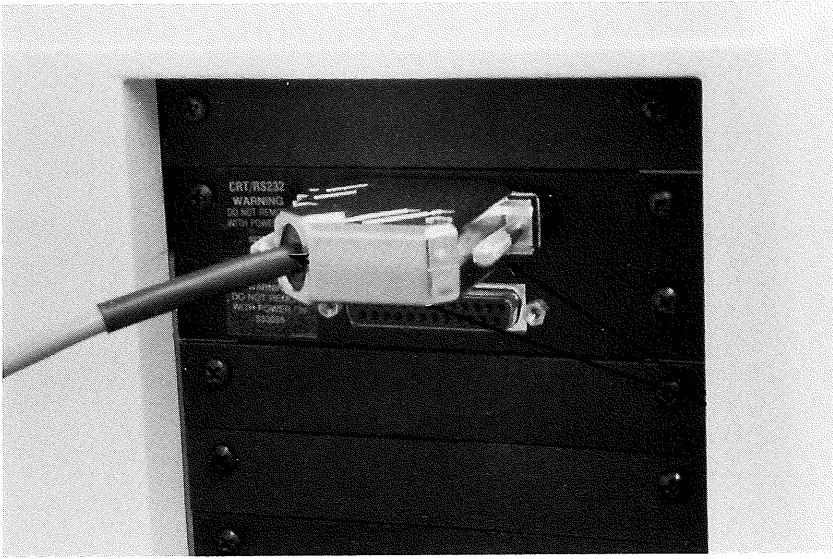

Figure 3.
8. Attach the other end of the cable to the board labelled "CRT/RS232" installed in the accessory slots on the left-hand side of the instrument. Secure by tightening the two screws. See Figure 3.